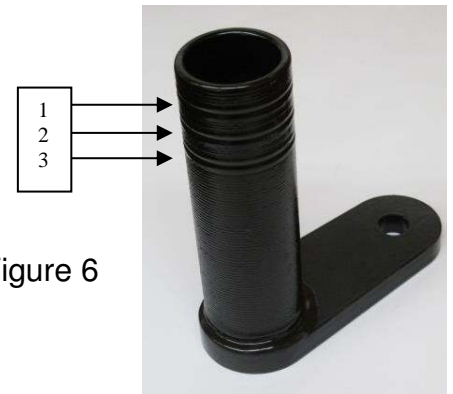

Figure 6
- ii. Trim off the pipe of the PB5019 to provide room for the spacers. There are three lines cut in to the pipe to act as a guide. See Figure 6 for a detailed view.